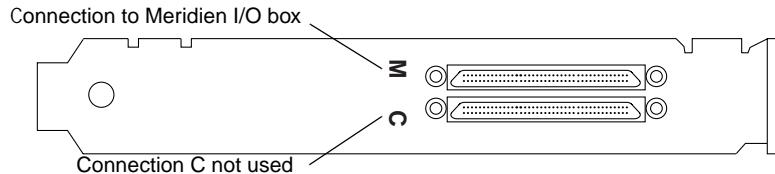

Figure 5-3 Digital Media Board Set to Meridien I/O Box Cable Connection
3. Connect the other end of the digital data cable to the connector labeled M (main) on the digital media board set (see Figure 5-3).